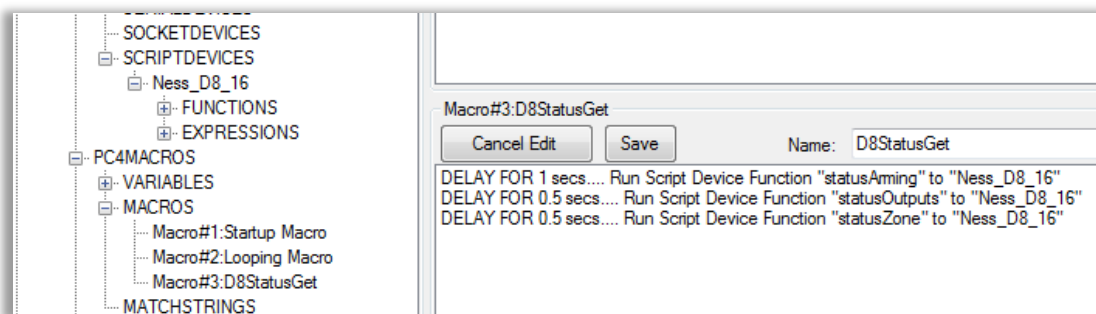

Figure 15 - Edit D8 Status Macro
- Expand the SCRIPTDEVICES tree, then the Ness_D8_16 tree. *Refer to Figure 15*
- Expand the FUNCTIONS tree. *Refer to Figure 15*
- Drag and drop the required functions into this new Macro. *Refer to Figure 15*